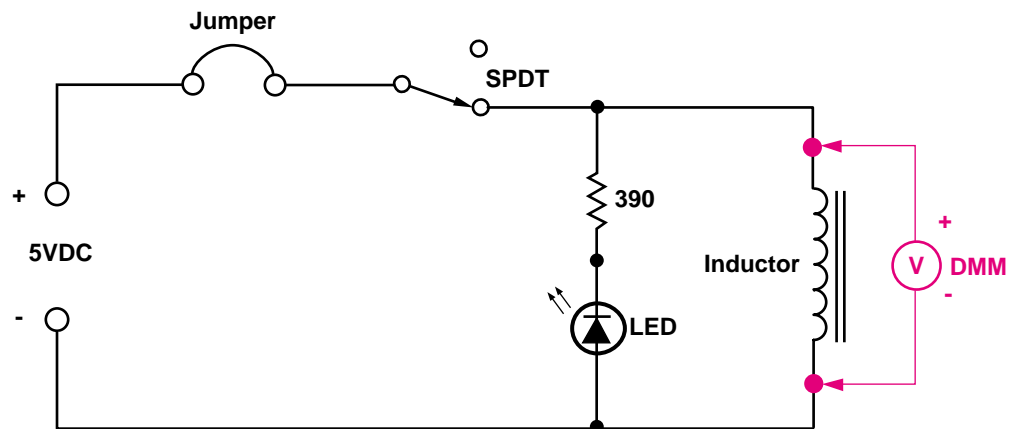

Figure 10
- 5. Connect the circuit as shown in Figure 10.
- ❑ 24. Remove the DMM leads from the circuit. Replace the jumper wire in the circuit as shown in Figure 10.